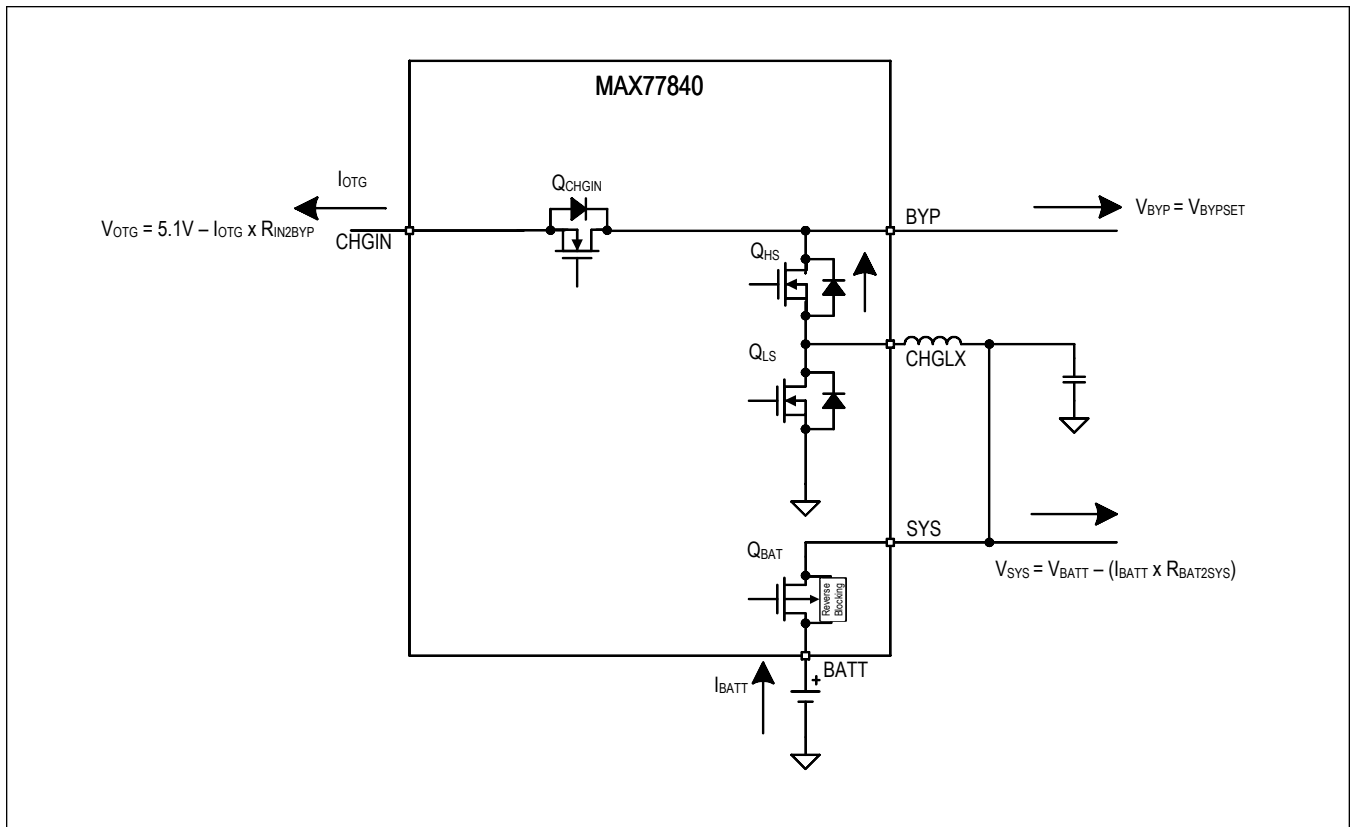

Figure 6. Battery-Boost (OTG)
4. BATTERY-BOOST (OTG), MODE = 0x0A: OTG is active (Q_{CHGIN} = on). Battery is connected to support SYS and OTG loads (Q_{BAT} = on), and charger is operating in Boost mode (Boost = on), see Figure 6.